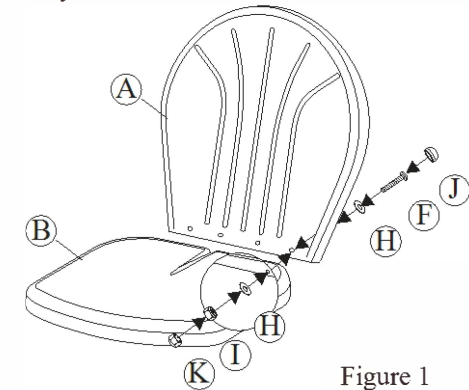

Figure 1
Step 2: Place the chair seat on a solid flat surface. Position the chair back as shown in Figure 1 so that the holes in the chair back align with the holes in the chair seat. Insert 1/4"x15 mm bolts through the holes of the chair back and then through the holes in the chair seat. Add a 1/4" nut to the end of each bolt. Hand tighten 3-4 turns only.
Step 2: Place table top up side down on a flat, non-abrasive surface. Attach table leg to table top using bolt and washer as shown in Figure 1. Add 1/4" nut to the end of bolt. Tighten a few revolutions only. Do not tighten completely at this time as some adjustments may be necessary to the alignment of the table legs. Repeat for remaining two legs.